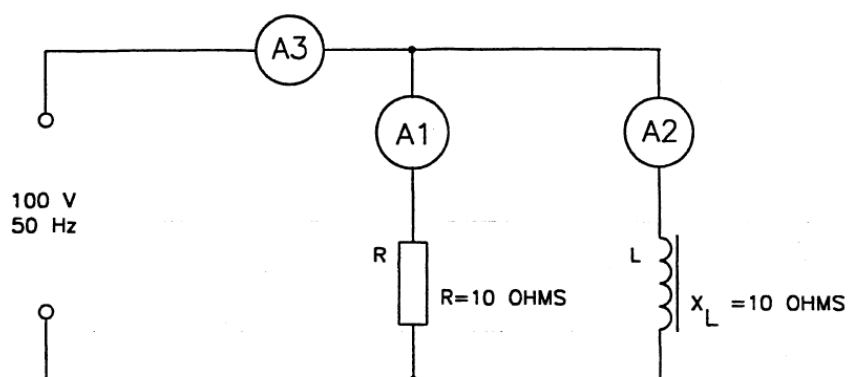

Figure 1 – RL parallel circuit
3. If a resistor with a resistance (R) of 10Ω was connected in parallel with a pure inductor with an inductive reactance (X_L) of 10Ω , and the supply voltage was 100V a.c., the circuit could be drawn as shown in Figure 1.
4. The current flowing in each individual component of the circuit in Figure 1 could be calculated using Ohm's Law: